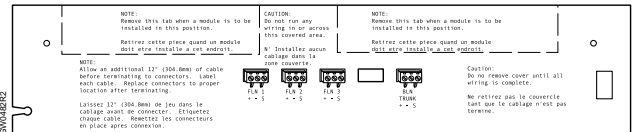

Figure 2. Temporary Cover.
- Remove the temporary connector cover that is wrapped around the board bracket (Figure 2).